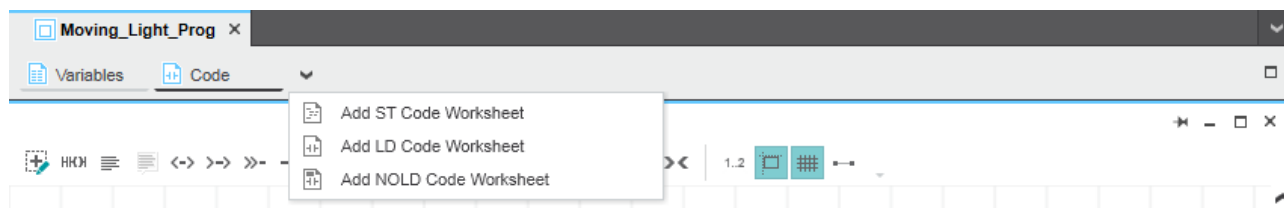

Figure 6-23 Adding the code worksheet to a POU
- Select a worksheet in the program editor (in the Figure 6-23, “Code” editor).